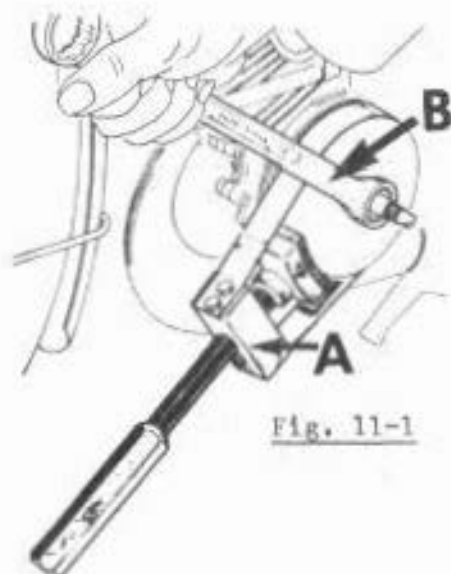
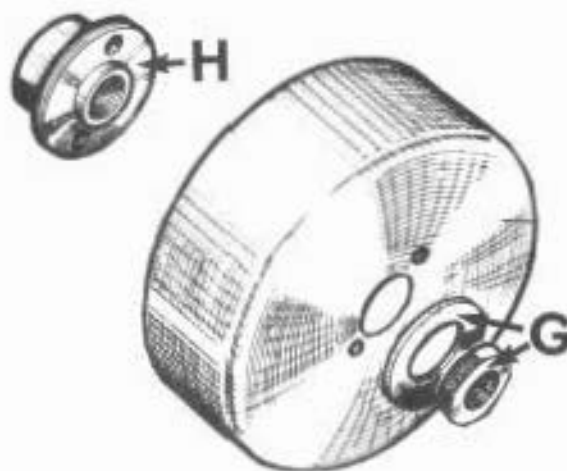

Fig. 11-1
Fig. 11-3
- 2) Tighten universal wheel vice #1291 onto flywheel see "A" Fig. 11-1 and remove flywheel nut and washer "C" Fig. 11-3 (.R.H. thread) using long 24mm wrench "B" Fig. 11-1. The flywheel is now free to be removed. The magnets will cause some resistance.
- 3) Using magneto cam puller #1390 "C" Fig. 11-4 remove cam "H" Fig. 11-3 from shaft by screwing puller "C" on cam "H", hold the puller with a wrench and screw in centre bolt "D" Fig. 11-4.
- 10) Hold the flywheel with tool 1291 and tighten the flywheel nut, see Fig. 11-1 Page 11.